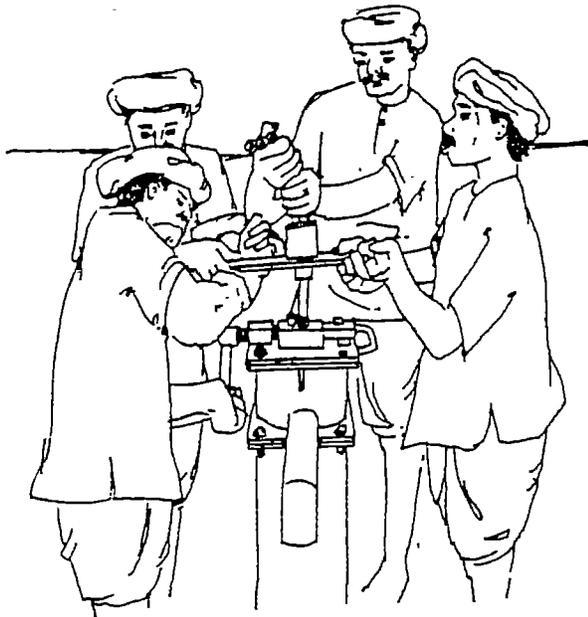

FIG:4.40 FIXING CHAIN SUPPORTING TOOL
- ix) Place chain coupling supporting tool on middle flange and remove rod vice (Fig.4.40)